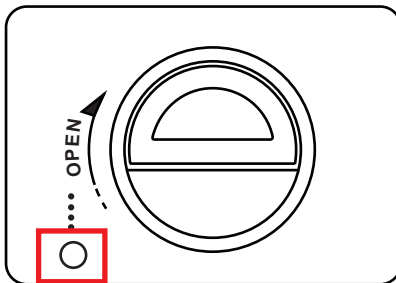
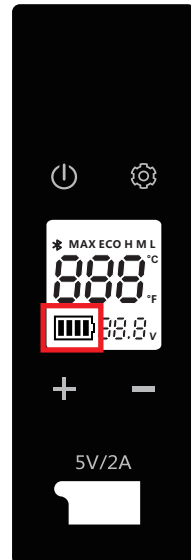

Figure 1
Figure 2
- 3) Put the battery into the fridge to charge the battery. Then press and hold the button showing in Figure 1 for 3 seconds to switch the battery on. The light will turn green and the capacity will be displayed on the screen. When the battery is in the charging state, the capacity will show the dynamic effect. When it is full, all 4 bars are illuminated, as Figure2 shows.